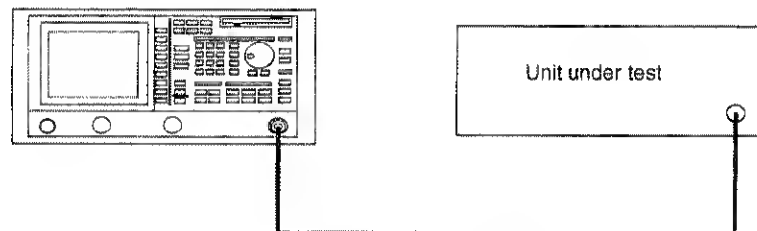

Figure 2-55 Setup Measuring Adjacent Channel Leakage Power
1. Connect the unit under test as shown in Figure 2-55.